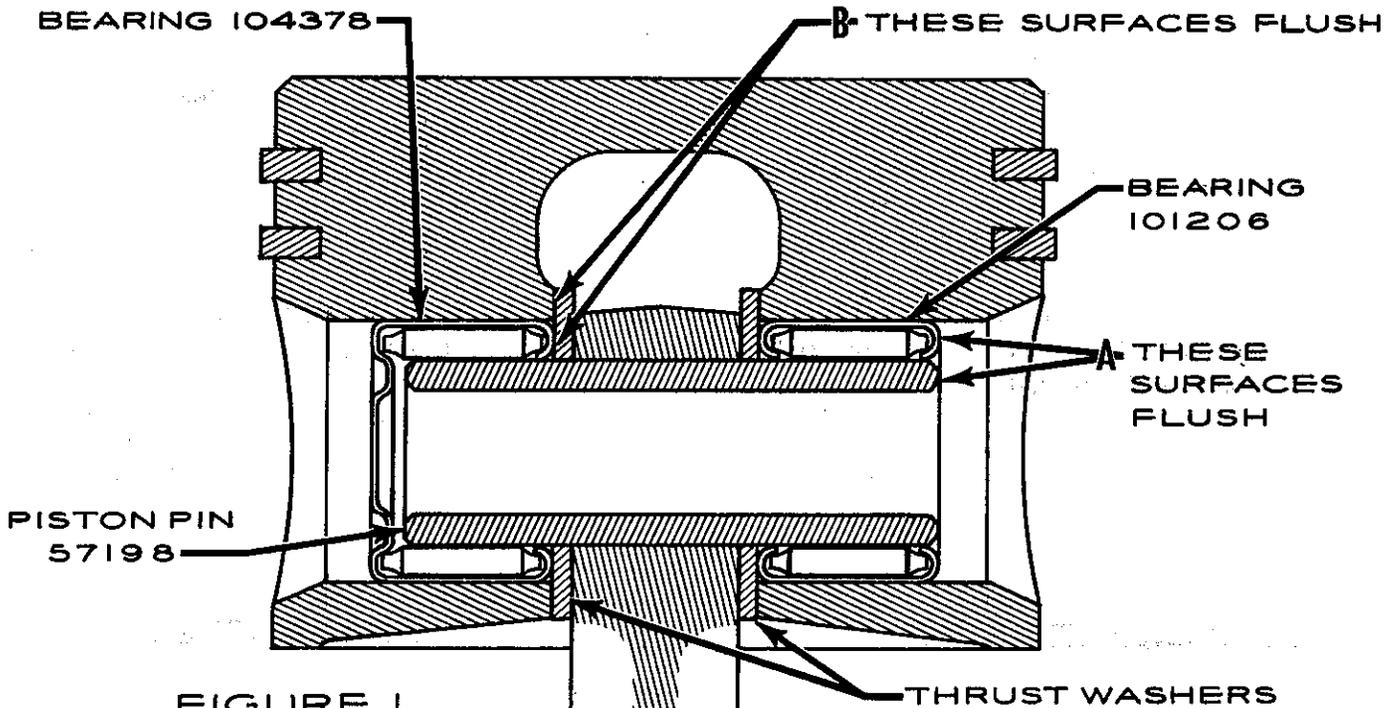

FIGURE 1
3. Press the bearing into the piston boss until the inside edge of the bearing is flush with the inside edge of the boss (see figure 1).
second thrust washer. With the connecting rod in alignment with the closed-end bearing, press the piston pin into the closed-end bearing until the outer end of the pin is from 0.010-inch above, to flush with the outer edge of the open-end bearing (see figure 1).